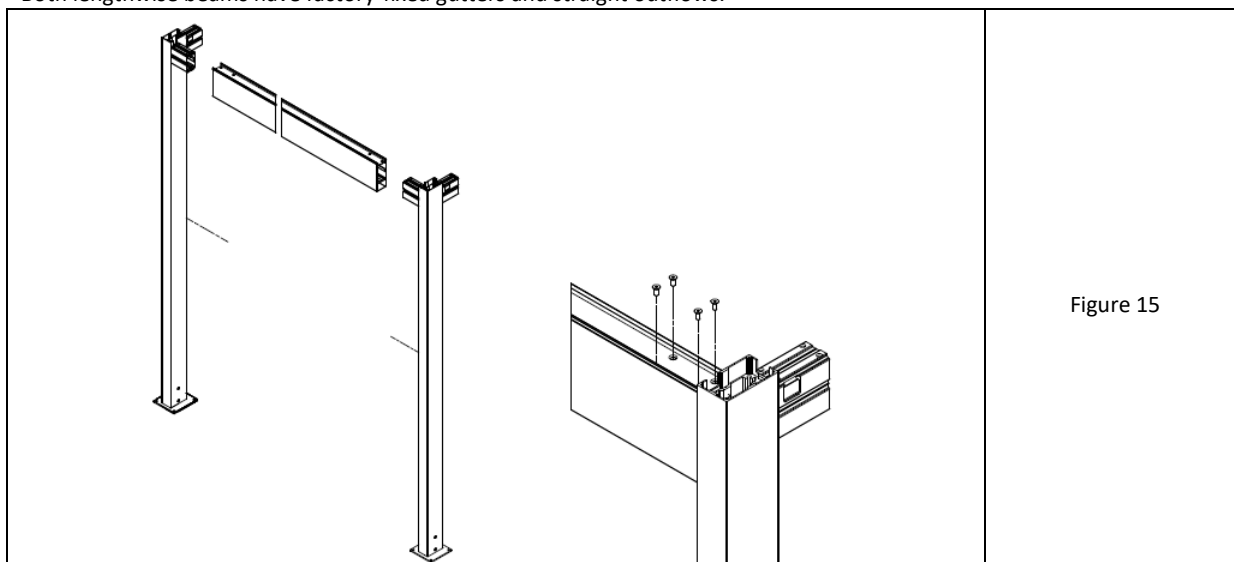

Figure 15
1. Posts with previously tightened feet should be inserted with bones on both sides into the chamber of the crossbeam and screwed from the side of the upper chamber of the beam according to fig. 15 using conical screws M8 x 20 with Allen socket. Pay attention to the installation of posts with the correct arrangement of feet. Perform the steps for both crossbeams to form two flat frames. A properly mounted frame has a sealing blade added on the crossbeam from the side of the bones protruding from the posts.